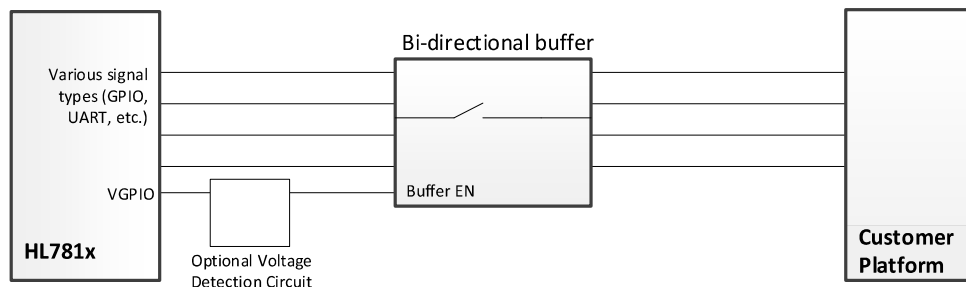
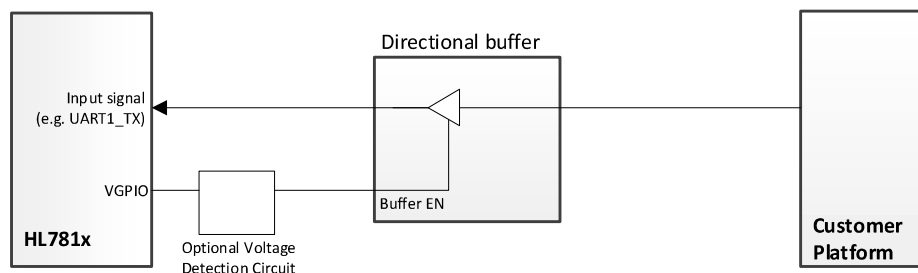

Figure 6-3: Example-Buffer - Bidirectional Signal
Figure 6-4: Example-Buffer - Directional Signal
- **Bidirectional (Input/Output) signals**— For module I/O signals (e.g. GPIOs), an analog switch that can tri-state both the output and the input can be used (e.g. Texas Instruments TMUX1511). As shown in Figure 6-3, I/O signals connected to the buffer will be tri-stated.
- **Directional (Input) signals**— For module inputs (e.g. UART1_TX), a logic buffer with output tri-state mode can be used (e.g. Texas Instruments SN74LVC1G126). As shown in Figure 6-4, the signal is controlled and, when disabled, the output signal is tri-stated.
To ensure faster detection of VGPIO transitions, Semtech recommends adding an optional voltage detection circuit (as shown in Figure 6-3 and Figure 6-4) to monitor and detect the transition low, and then control (enable/disable) the associated buffer circuit.